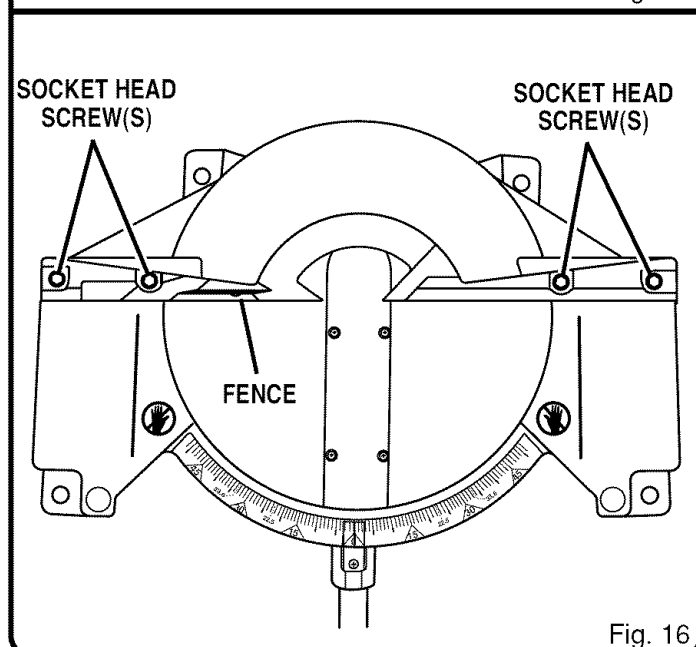

Fig. 16
- Using the blade wrench provided, loosen the socket head screws securing the fence. *See Figure 16.* Adjust the fence left or right until the framing square and zero clearance throat plate are parallel.
See Figures 16 - 20
- Loosen the socket head screws that secure the miter fence to the miter table. *See Figure 16.*